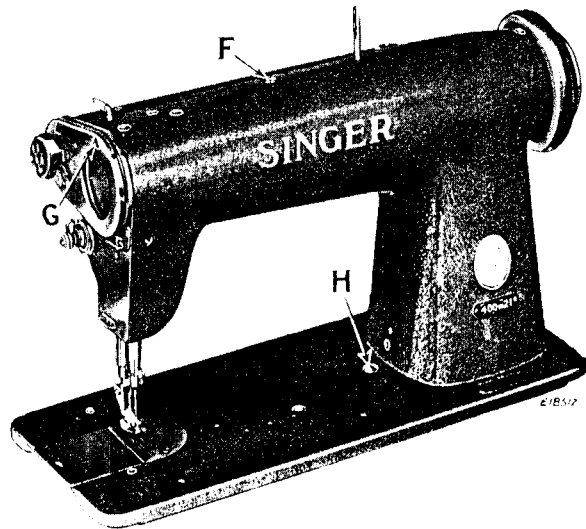

Fig. 21. Stitch Regulator and Indicator on Machine 400w21
The pressure of the presser foot on the material is regulated by the screw **F**, Fig. 21, in the top of the arm. Turn this screw to the right to increase the pressure or to the left to decrease the pressure. The pressure should be set only sufficiently strong to satisfactorily feed the work.
To change the length of stitch, press down the stud **H**, Fig. 21 in the bed of the machine and at the same time turn the machine pulley slowly until the stud enters a notch in the adjustable feed eccentric cam. Still holding the stud, turn the machine pulley a part of a revolution until the number indicating approximately the number of stitches per inch desired appears in the hole **G** over the large take-up disc, then release the stud. **DO NOT TOUCH THE STUD (H) WHILE THE MACHINE IS RUNNING.**